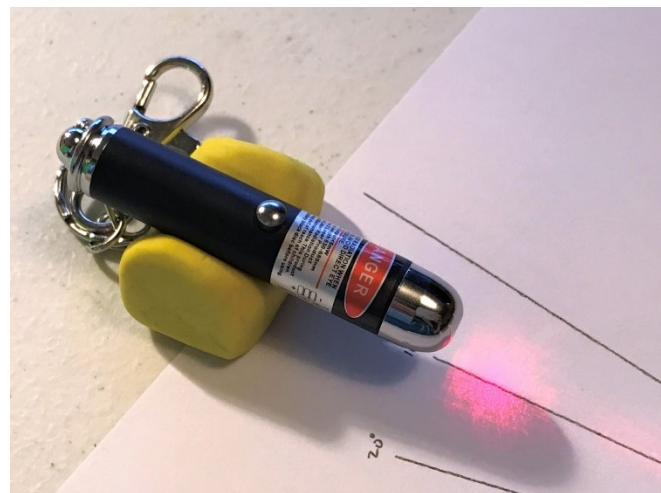

Fig. 4: Laser pointer placed on simple clay holder
7. Use modelling clay to form a holder for the laser pointer such that it is raised off the table and allows you to angle it (up/down) as necessary (see Fig. 4).
1. Set the laser just beyond the angle lines you have drawn so that the front of the laser pointer is over the end of the line (see Fig. 4).